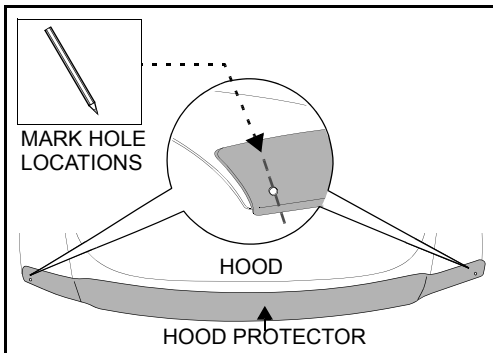

Figure 6.
6. Using a non permanent pen or pencil, mark through the centre of both outer holes in the Hood Protector, onto the hood. As shown in figure 6. Remove the Hood Protector.